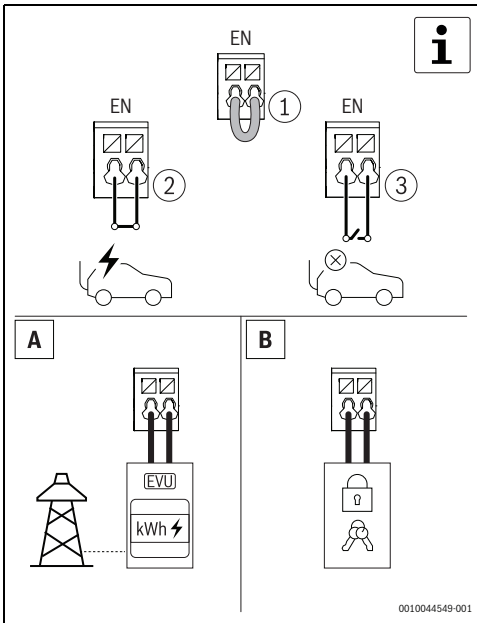

Fig. 47 Optional digital input
- ▶ Unlock the Power Charge 7000i with the RFID card, the app, or via the external blocking device. This step is optional (→ Fig. 47 and 6.1.5, page 42).